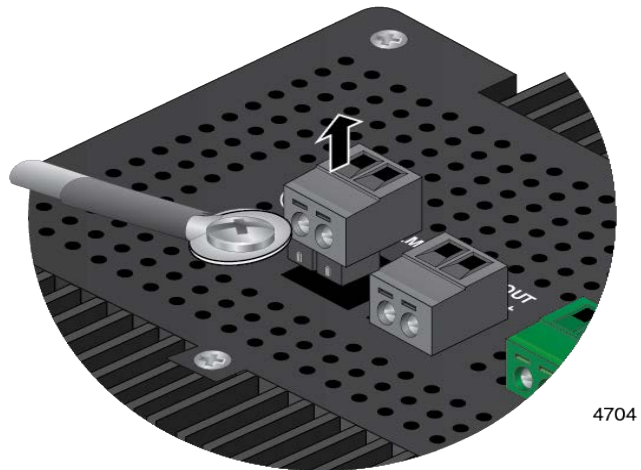

Figure 51. Removing an Alarm Connector
3. Remove the alarm connector from the top panel. Figure 51 shows the removal of the ALM OUT connector.